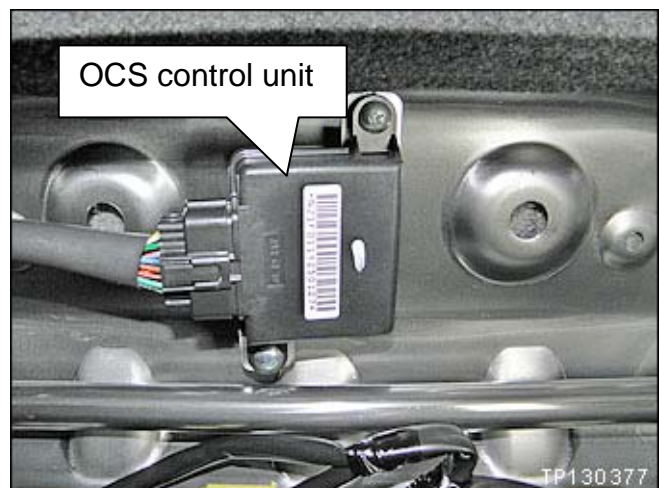

Figure 2
2. Replace the OCS control unit with the one listed in the Parts Information (see Figure 2).